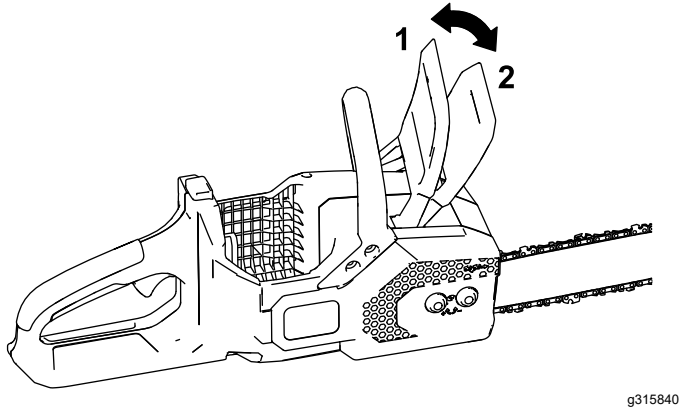

Figure 28
2. Engage the chain brake by moving the chain brake forward to the STOP position (Figure 28).
4. Disengage the chain brake by moving the chain brake rearward to the OPERATING position (Figure 28).
4. Ensure that the chain brake is in the OPERATING position (Figure 28).